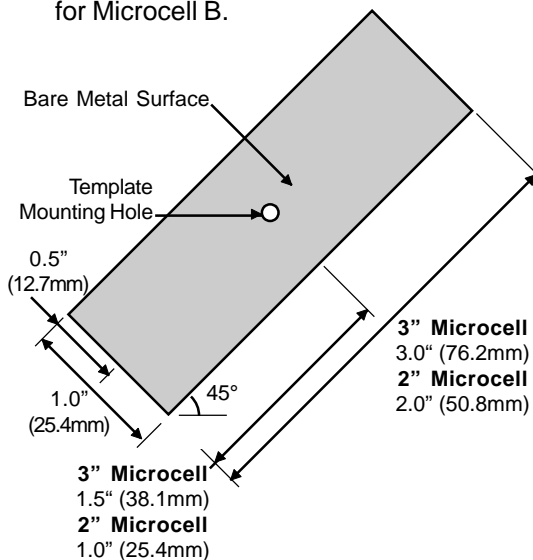

Figure 4-6. Prepared Mounting Surface
1. See Figure 4-6. At the center of the Microcell mounting location, drill all the way through the web with the #29 drill bit. This produces the template mounting hole.
2. See Figure 4-6. Mark the surface preparation area for Microcell A. Repeat for Microcell B on the other side of the web.